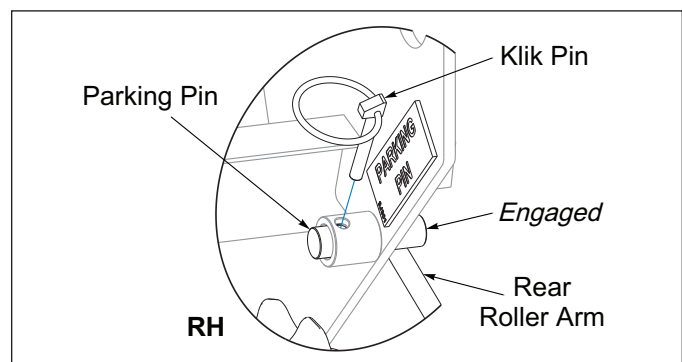

Figure 3-2: Parking Pin Engaged
2. Engage both Parking Pins at the back LH and RH sides of the Seeder. This will limit the movement of the Rear Roller. **See Figure 3-2.**